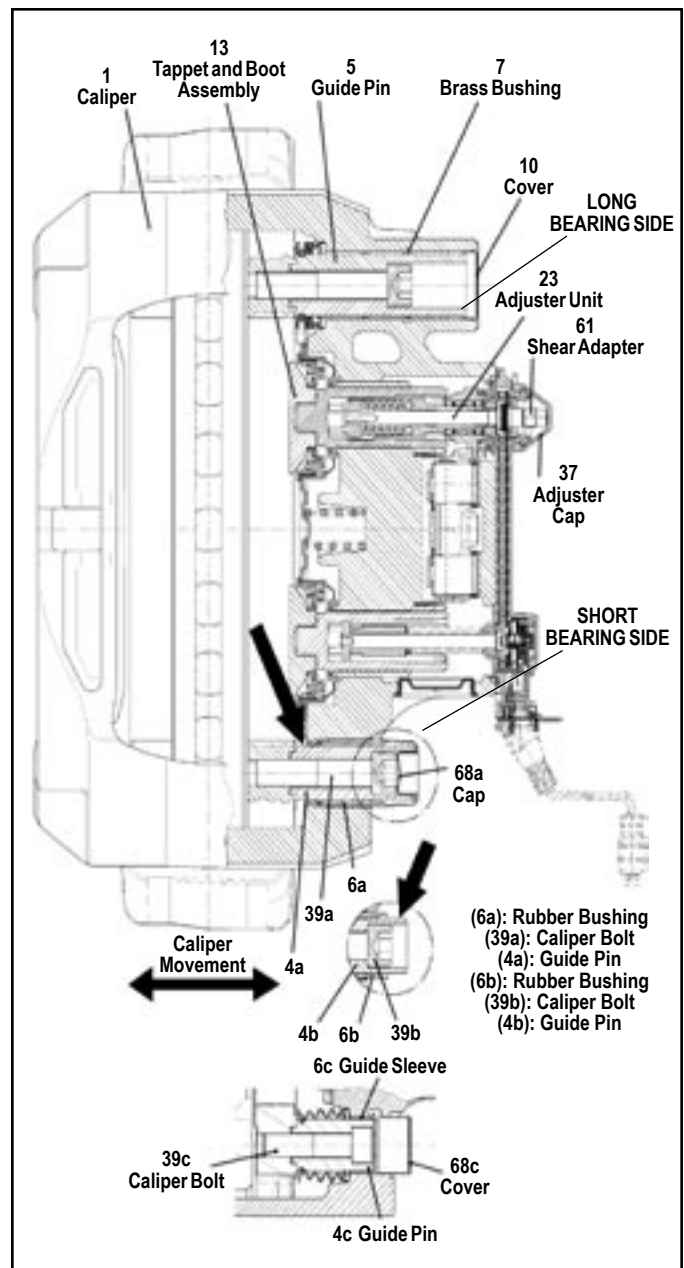

FIGURE 28 - GUIDE PINS
One of the three different styles of guide pin (A, B, or C) may be present (See Figure 28). The bearings for styles A and B use a rubber bushing, and style C uses a guide sleeve. Clean dirt, road grime, etc. from the guide pin or cover.
Use the measuring point on the caliper (1) - see the arrow in Figure 28. Press the caliper in the direction of carrier (2) and set the dial-gauge to zero.
The long bearing side guide pin (5) is sealed with the cover (10) and with the inner boot (9). See Figure 28. Note: It may be necessary to remove the pads to inspect the inner boots (9) if pad wear is minimal. The guide pin (4a, 4b, or 4c, depending on the style) is also sealed with an inner boot (9) and a cover (style C), or a flexible rubber wear indicator in the case of style A guide pins.